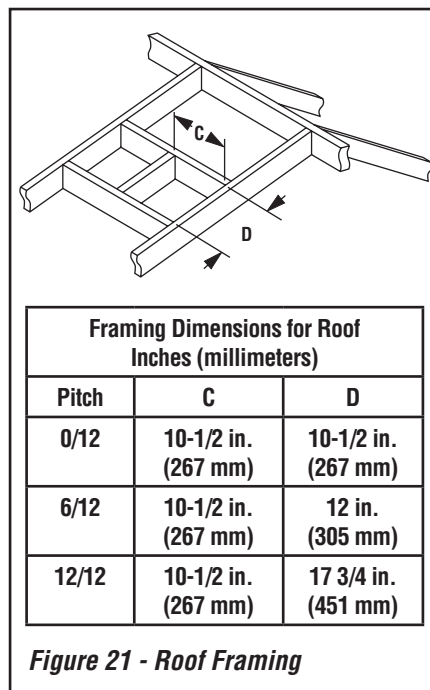

Figure 21 - Roof Framing
H. Frame roof opening - Identify location for vent at the roof. Cut and/or frame opening per Roof Framing Chart (**Figure 21**).